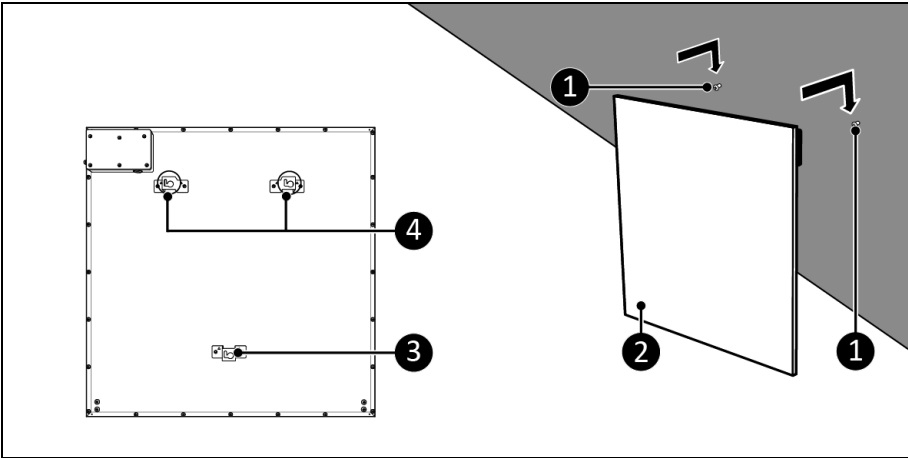

Figure 10
9. Place the brackets (Figure 10, pos. 4) on the back of the device over the screws in the wall (Figure 10, pos. 1).
11. The spacer bracket (Figure 10, pos. 3) keeps the bottom of the device away from the wall